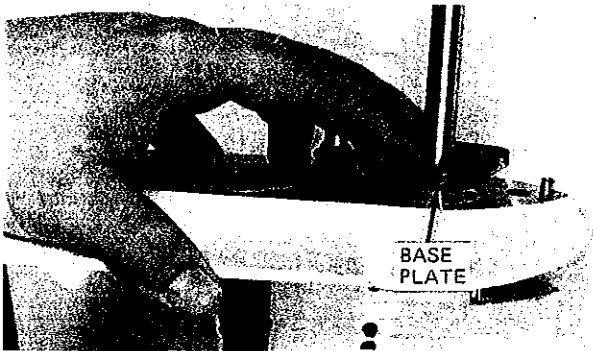

Figure 25. Install base plate.
- (1) Install a new oil seal in the pump body assembly with the lip of the seal facing out.
- (2) Install a new "O" ring; a small screwdriver may be needed.
- (3) Replace the base plate (Figure 25).